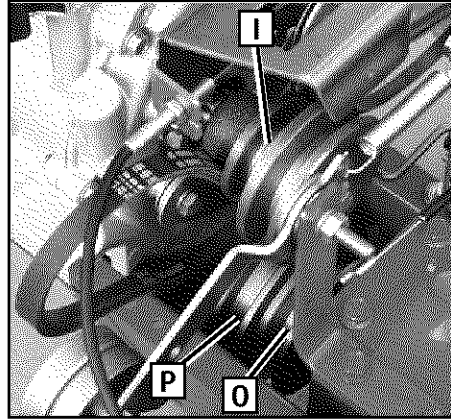
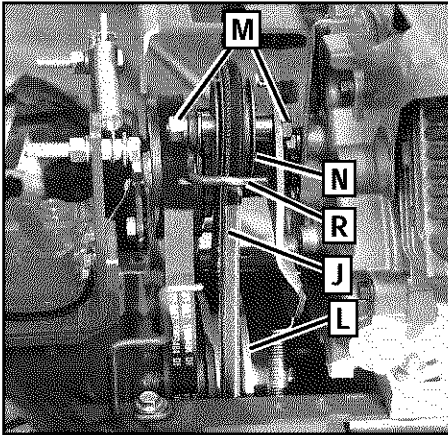
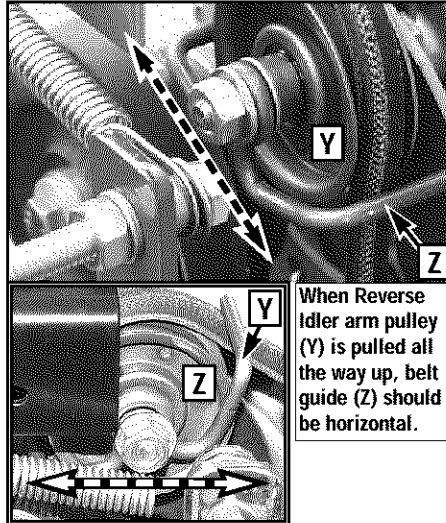

Figure 5-19
Figure 5-21: Right-side view.
Figure 5-22: Reverse belt guide positioning.
3. From the front of tiller, insert the forward clutch belt in between the bottom of the engine pulley (I, Figure 5-19) and the top of transmission pulley (P).
6. Reinstall the reverse clutch belt. Insert the bottom of the belt into the frame, then pull down on the belt and slip it onto the large, forward-most groove of the transmission pulley (P, Figure 5-19).
The reverse clutch belt (J, Figure 5-21) is driven by the engine pulley (I, Figure 5-19). When the Reverse Clutch Control knob is pulled out, it pulls the reverse idler arm and pulley (N, Figure 5-21) inward, which tightens the belt against the engine pulley. This drives the transmission pulley (L), resulting in reverse motion.
3. Pull the reverse clutch belt downward and slip it off the transmission pulley (L, Figure 5-21).
4. Use two 1/2" wrenches to loosen and remove wire belt guide (R, Figure 5-21) from the reverse idler arm pulley. Do not remove locknut and screw.
**IMPORTANT:** The reverse belt has a "V" shape. When installing the belt, make sure that the widest (flat) side of the belt rides against the reverse idler pulley (N, Figure 5-21) and transmission pulley (L). If needed, the belt can be twisted "inside out" so that the "V" shaped side is on the outside and the widest side is on the inside.
2. Insert the belt down into the front of the transmission housing. Slip the top half of the belt onto the reverse idler arm pulley (N, Figure 5-21).
3. Pull the belt downward and loop the bottom half of belt around the front groove of transmission pulley (L, Figure 5-21).
5. (You will need an assistant to help with this step.) Pull the reverse idler pulley (Y) up to its highest point and position the belt guide (Z) horizontally level as shown in Figure 5-22. Securely tighten the screw and locknut (M, Figure 5-21).